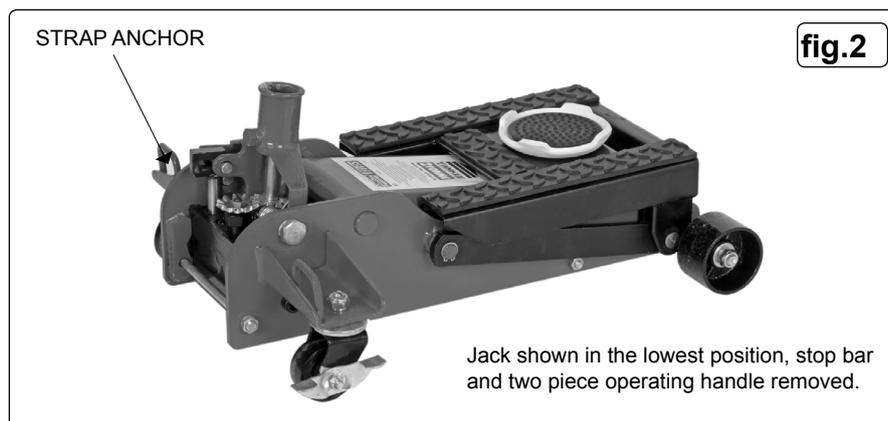

fig.1
- 3.1.2. Now test the jack by raising it to its full height and then lowering it. Rotate the cog release valve (fig.1) gently to slowly lower the jack, rotate the cog operated valve to the closed position ready for use.
- 3.2.1. Position the bike in a suitable area, checking that the surface on which the jack will stand is solid and flat (preferably concrete). Ensure there is good access and clearance beneath the bike for the jack to be wheeled under. Remove the circular saddle (fig.1).
- 3.2.3. With high integrity ratchet straps or similar, strap the bike to anchor points (fig.2) on jack base frame and cross bar (fig.1).